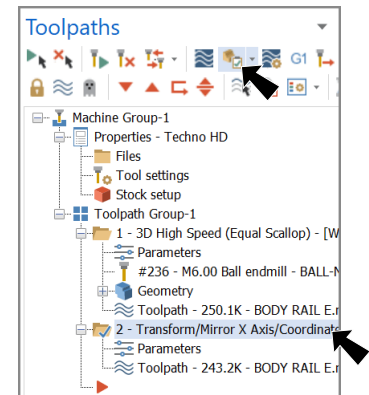

Fig. 29
Step 1. In Toolpaths Manager, click the **Transform/Mirror** toolpath, **Fig. 29**.
Step 3. Click **Play**  (R) in playback bar.